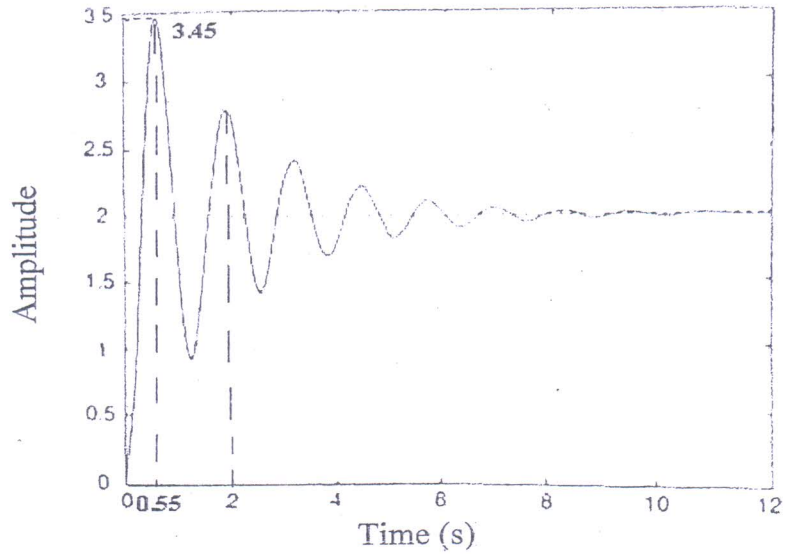

Figure 1
- Q.3(A) With a neat sketch explain the constructional feature and working of (i) piezoelectric accelerometer, (ii) Ionization gage for pressure measurement 10
- (B) Figure 1 shows the unit step response of a second order system. 10